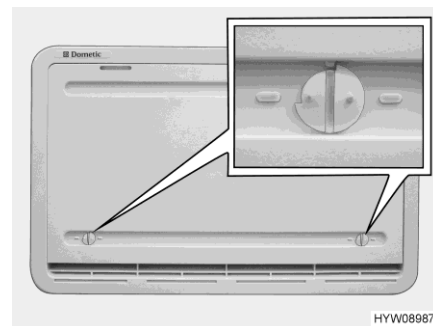

Fig. 204 Winter cover (refrigerator ventilation grill)
The winter covers (Fig. 204) protect the cooling unit against cold air. Place winter covers in front of both refrigerator ventilation grills when the external temperature falls below +10 °C (both for gas and electrical operation).
- Open both locks (Fig. 204) (groove in horizontal position).